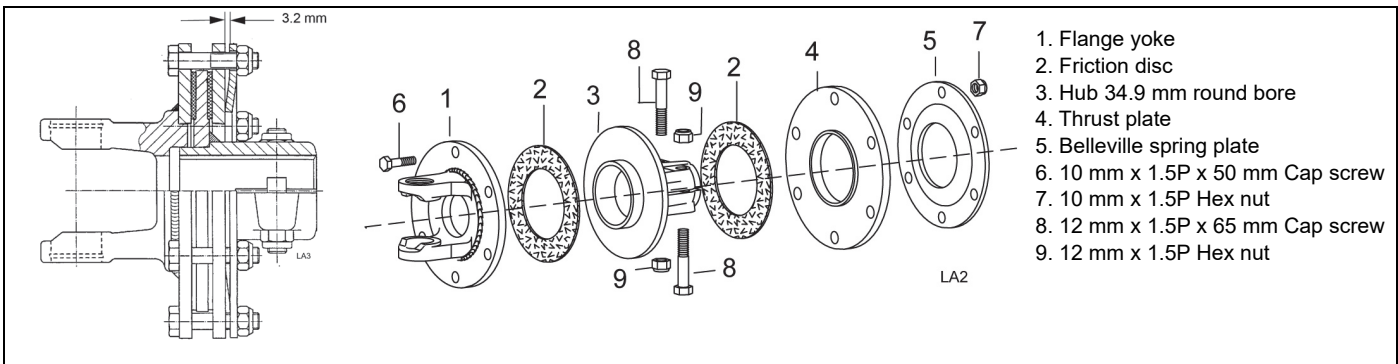

Figure 8. Slip Clutch Assembly (.50E & .60E Series Models)
2 - PLATE SLIP CLUTCH ADJUSTMENT (FIGURE 8)
3. Loosen six 10 mm cap screws (6) to remove all tension from Belleville spring plate (5).
4. Hold clutch hub (3) solid and turn shaft to make sure clutch slips.
5. If clutch does not slip freely, disassemble and clean the thrust plate faces (4), flange yoke (1), and clutch hub (3).
7. Tighten Belleville spring (5) until it is against the thrust plate (4) of the clutch, and then back off each of the six nuts by 2 full revolutions. The gap between Belleville spring and thrust plate should be 3.2 mm as shown in Figure 8.
8. If a clutch continues to slip when the spring is compressed to 3.2 mm gap, check friction discs (2) for excessive wear. Discs are 3.2 mm when new. Replace discs after 1.6 mm wear. Minimum disc thickness is 1.6 mm.